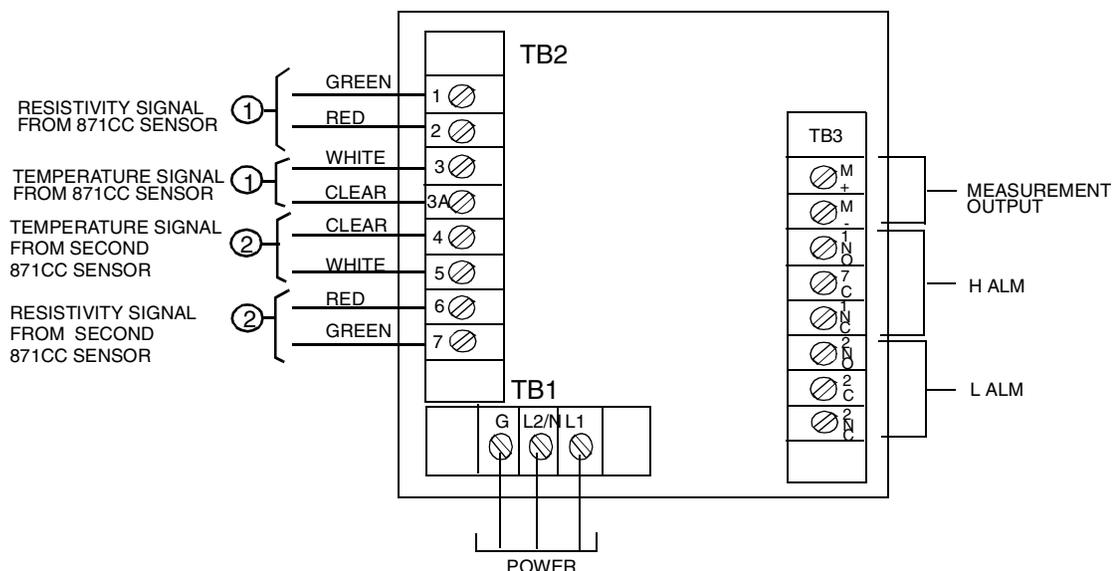

Figure 10. Plastic Rear Panel Wiring
2. Connect H and L alarm wires to TB3 as shown in Figure 10. Failsafe operation requires connections be made between NC and C and the alarms be configured active. Refer to “General Information Alarms” on page 33.
3. Connect wires from external circuit for Analyzer measurement output to terminals TB3–1(+) and TB3–2(-). Refer to Figure 10.
5. Connect sensor wires to Analyzer terminal block (TB2) in accordance with Figure 10. If a single sensor is used with this Analyzer, it may be wired to either sensor input. See User Notes (Section 7) for help with configuring the 873 for single or dual sensor use.
6. Connect power wires to terminal block TB1 as shown in Figure 10.